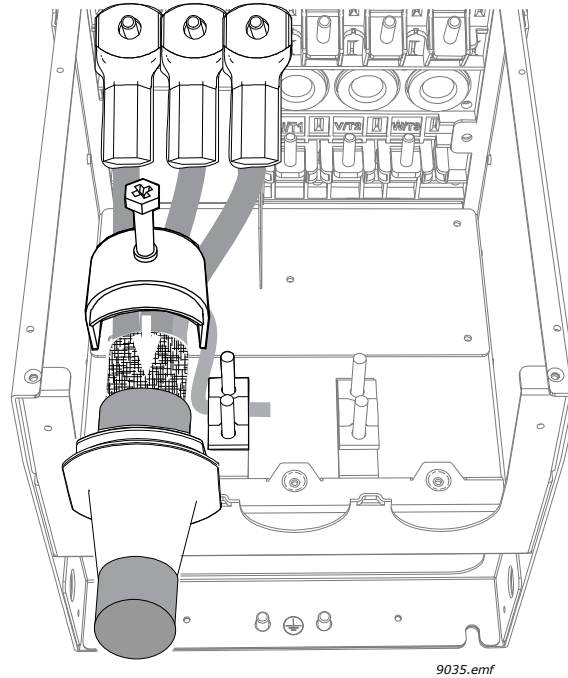

Figure 33: Exposing Cable Shields.
10. First, remount the EMC shield plate (see Figure 33 [→ 40]), and then remount the FS9 sealing plate (see Figure 32 [→ 40]).